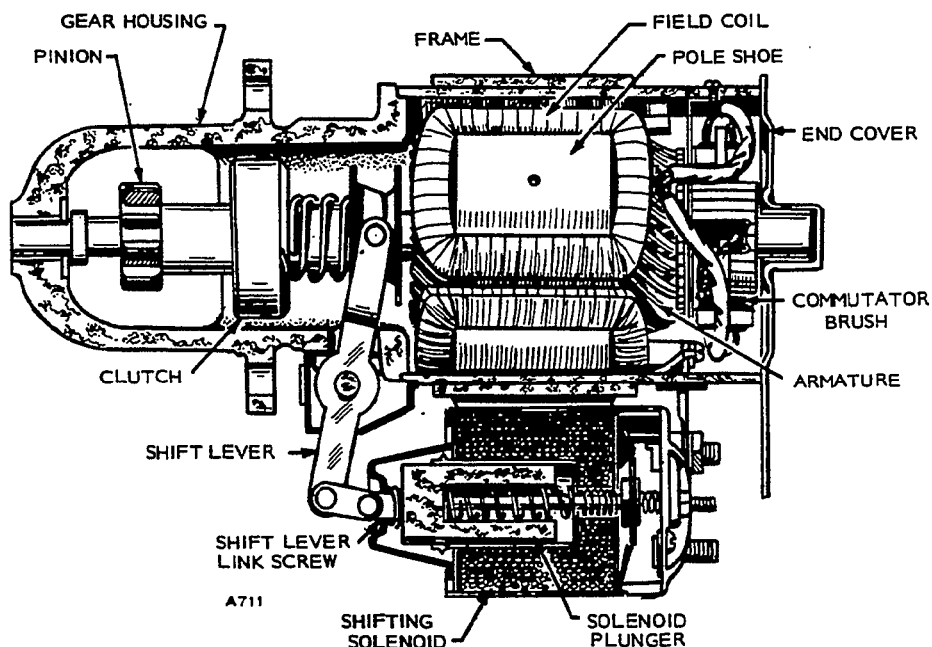

FIGURE 88. STARTING MOTOR
1. Remove connections to controls and battery at shifting solenoid. See Figure 88.